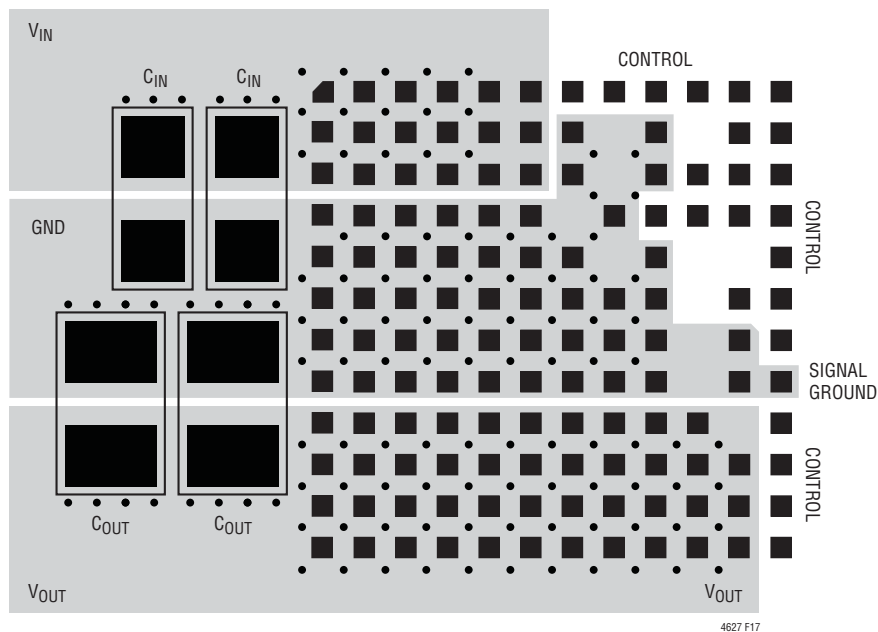

Figure 17. Recommended PCB Layout
- For parallel modules, tie the COMP and V_{FB} pins together. Use an internal layer to closely connect these pins together. Figure 17 gives a good example of the recommended layout.